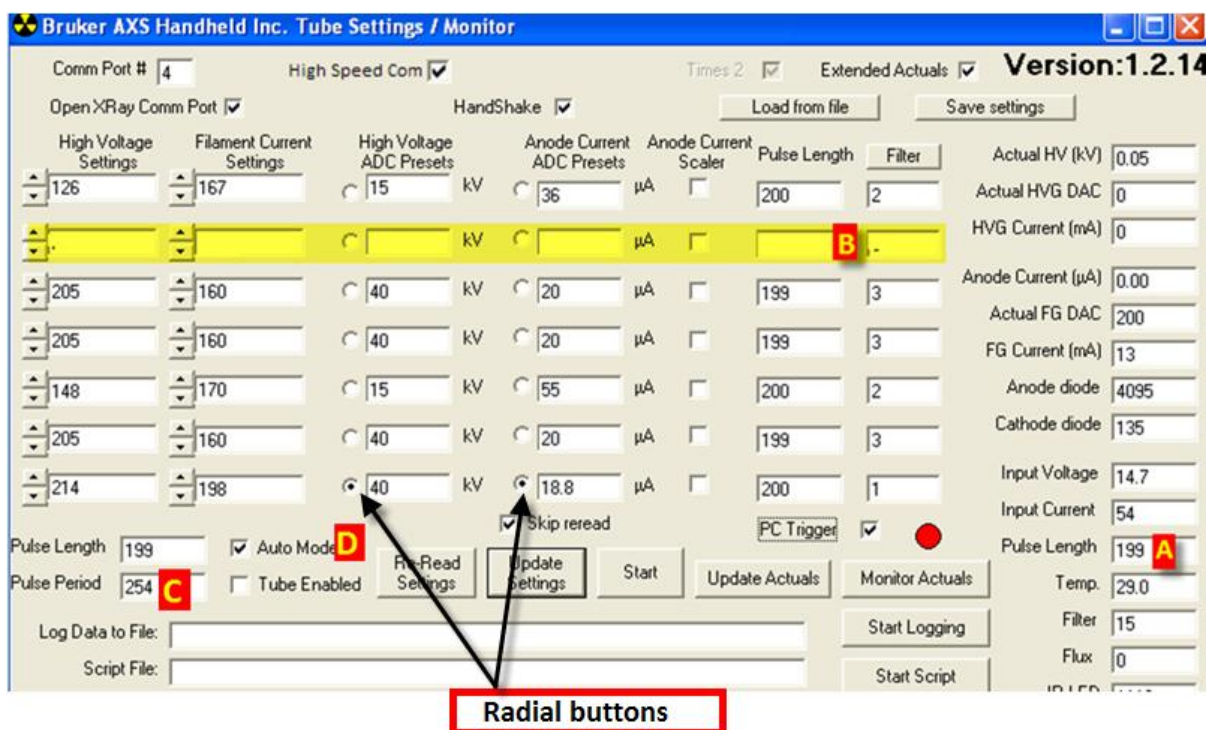

Figure 3
- Modify the Pulse Length (Figure 3 **B**) to match the actual Pulse Length **A**.
1. **CHECK** the *High Voltage* and *Anode Current* radial buttons (see Figure 3) for the row you wish to update (generally, this will be Line 2).